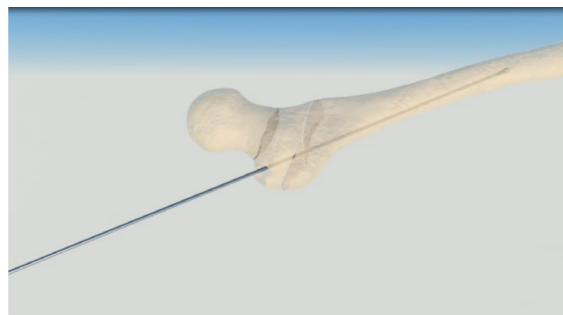

Figure 6a
- After inserting the ball head guide along the bone lever, withdraw the bone lever (Figure 6a).